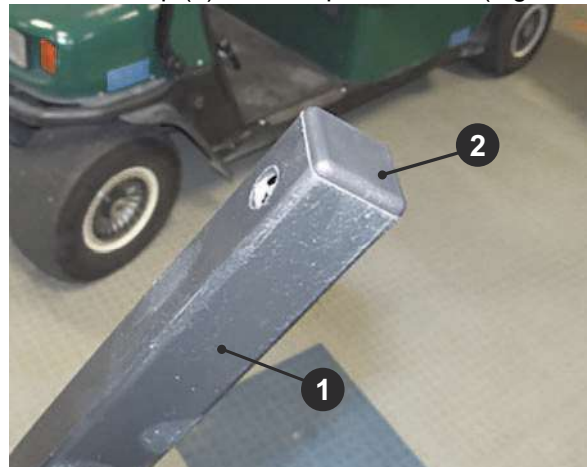

Figure 11 Strut with end cap
- Place the cap (2) on the top of the strut (Figure 11).